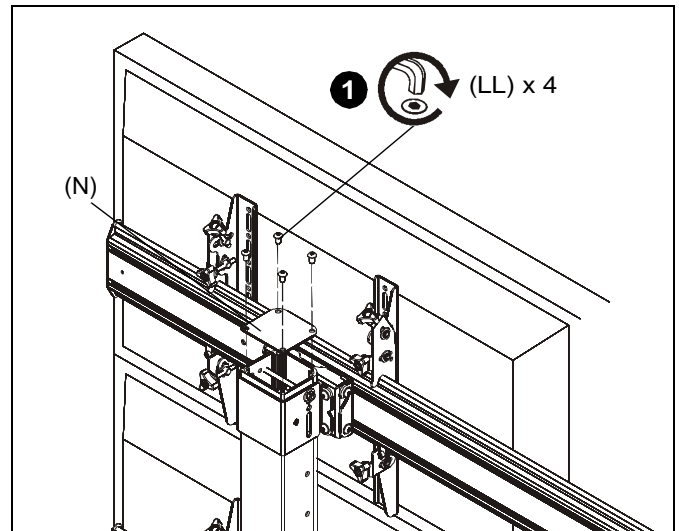

Figure 20
- Use four 5/16-18 x 1/2" button head cap screws (LL) to install each column cap (N) to each column. (See Figure 20)